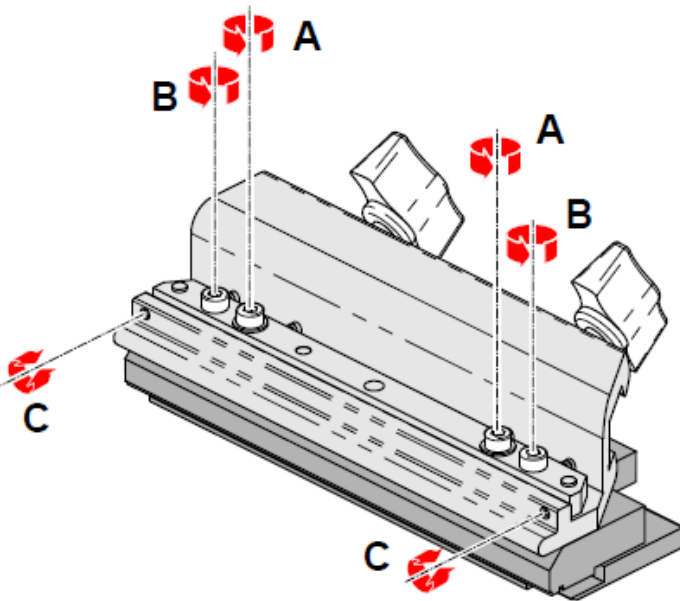

Fig.1 Printhead adjustment screws.
- To adjust the printhead, loosen the 4 screws marked A and B in Fig.1 below with a 2.5mm hex key. Do not screw out all the way.
- Once loosened, the printhead can be adjusted on the bracket by tightening the screws marked C (Fig.1) by  $\frac{1}{2}$  a turn. Lock screws A and B after this adjustment.